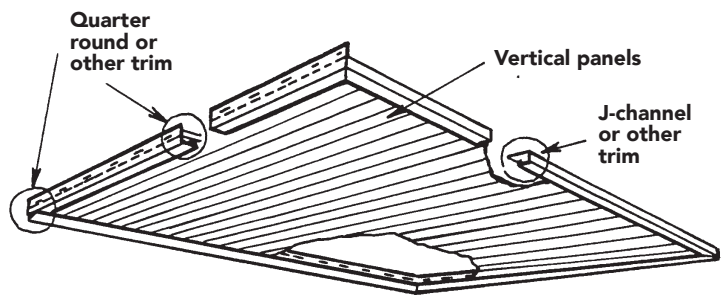

Figure 71
- **Begin by installing receiving channels on all four sides of the porch (Figure 71).** This can be a J-channel or F-channel. Porch ceiling panel must be fastened at all ends to a supporting component such as a nailing strip. Panels shall be installed in accordance with the manufacturer's installation instructions.